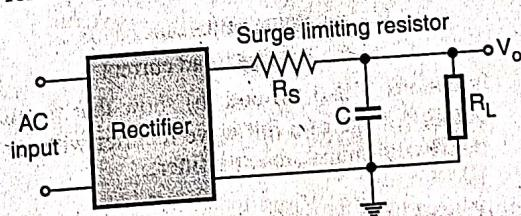

Fig. 11.8.7 : Surge current limiting by including resistor R_s
- The surge current can be limited by connecting a resistor R_s in series with the filter capacitor as shown in Fig. 11.8.7. R_s is a small resistor.